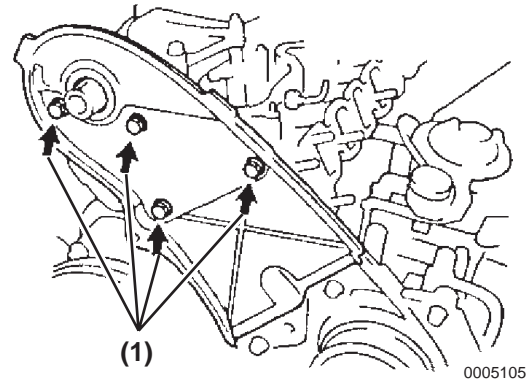

Figure 5-75
3. Install the oil seal retainer using 4 bolts (**Figure 5-75, (1)**). Tighten the bolts uniformly in steps and torque to 200 kgf·cm, 19.61 N·m (14.5 lb-ft).